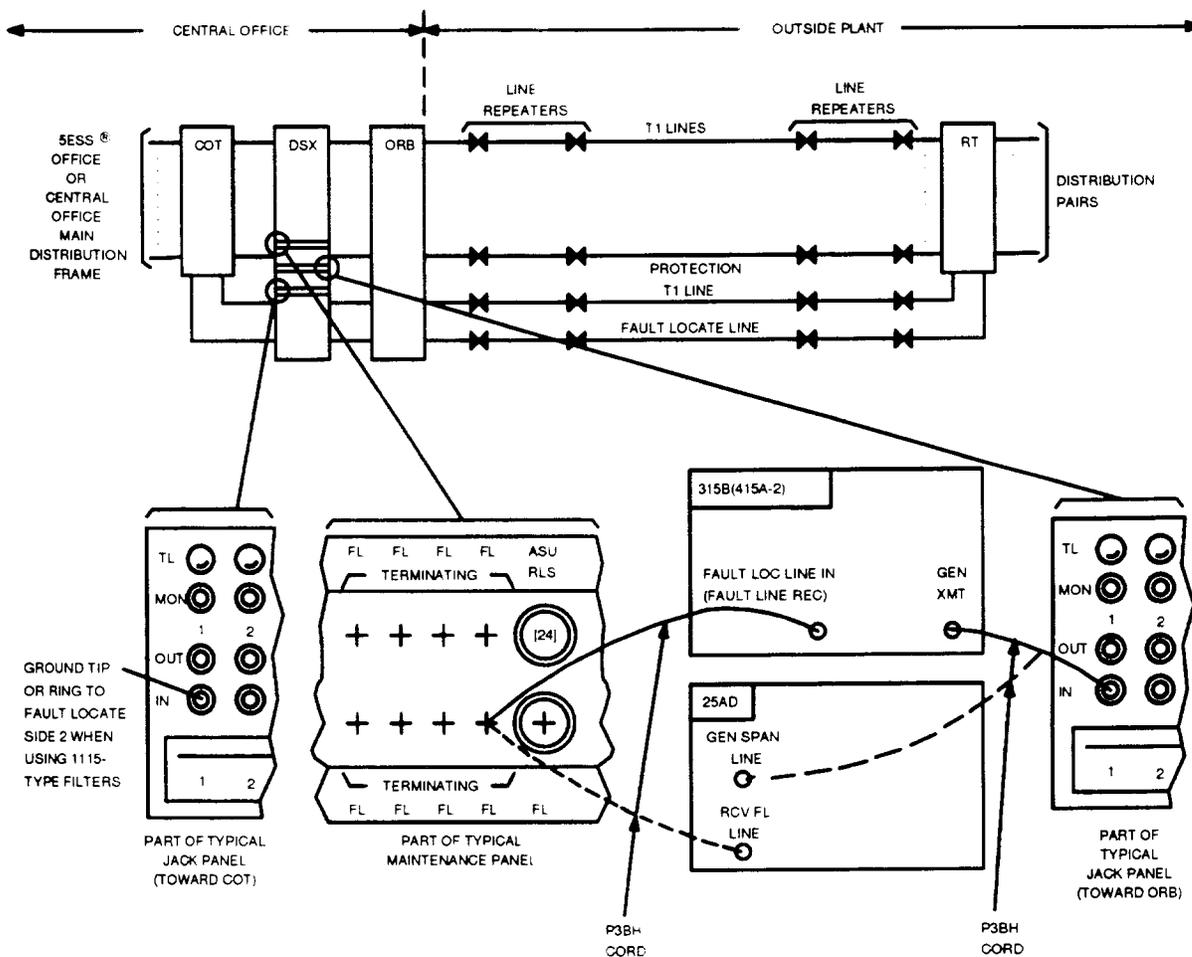

Figure 2 — Typical DSX Cross-Connect Fault-Locating Configuration
15. Make maintenance panel test connections as shown in Figure 2.